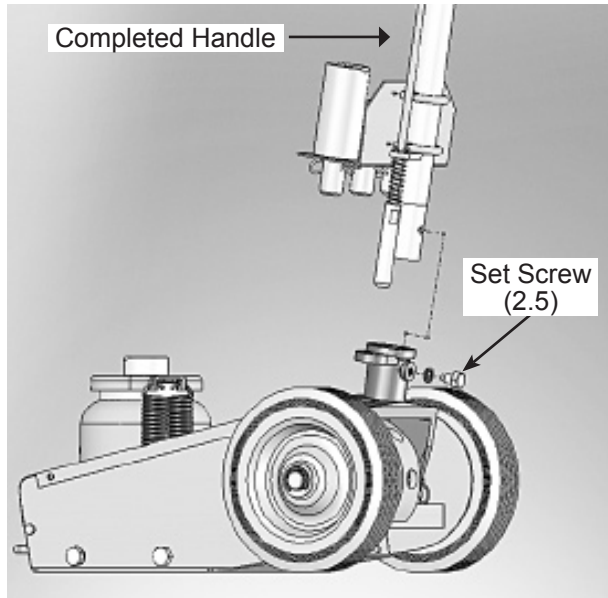

Fig. 2
- Put the Handle Assembly into Handle Socket and secure with Set Screw. (See Fig. 2.)